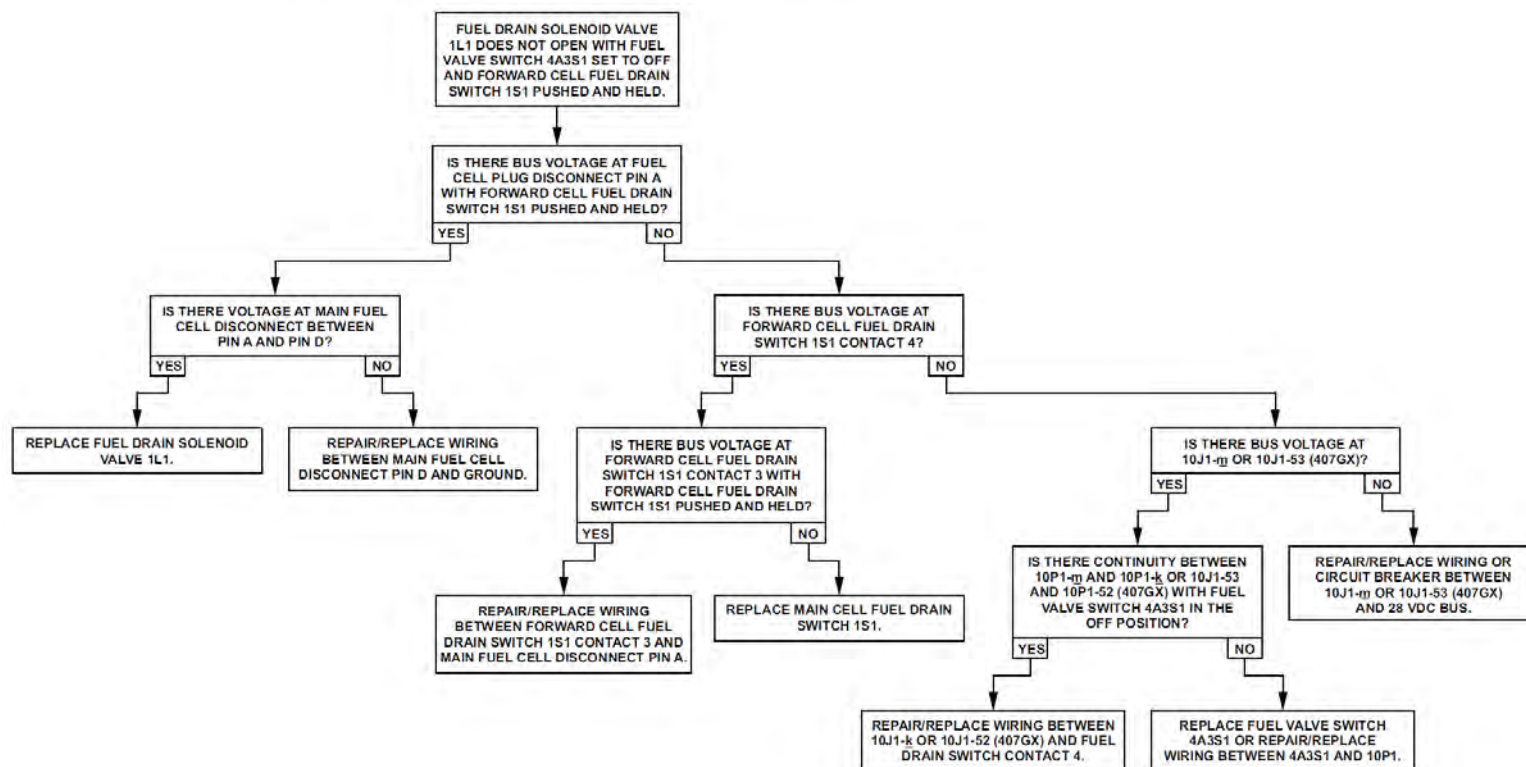

Figure 96-107: Fuel Shutoff Valve Electrical System, Fuel Cells Drain Valve Circuit – Trouble No. 5
- If the fuel drain solenoid valve (1L1) does not open, refer to Trouble No. 5 (Figure 96-107).